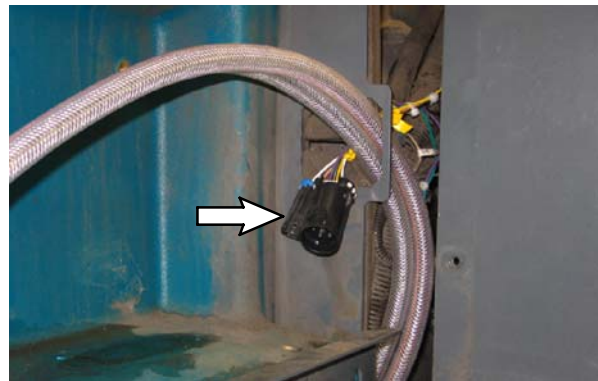

FIG. 9
44. Route *ec-H20* harness *ec-H20* assembly leads into the the operator compartment. Refer to Fig. 9.